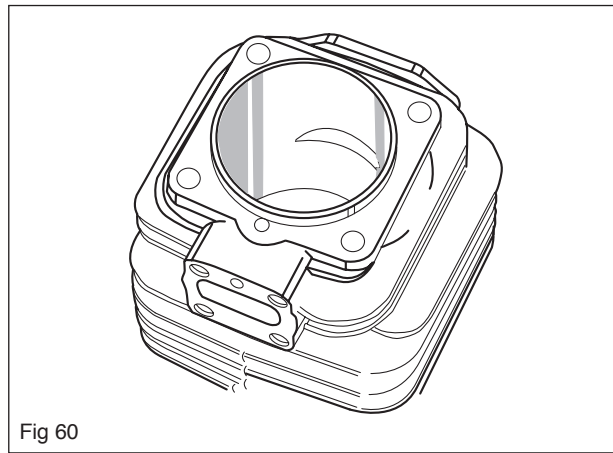

Fig 60
- That the cylinder does not have any chafe or cutting marks. See figure 60.